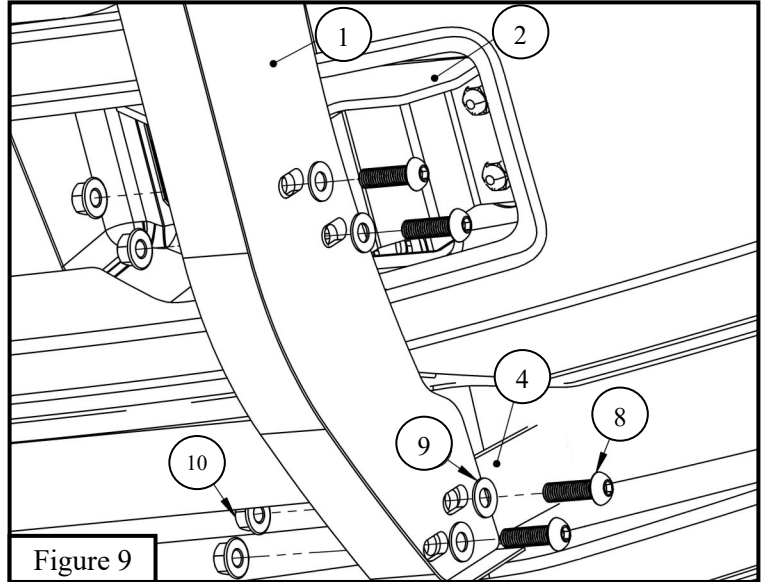

Figure 9
8. Locate the Sportsman X Grille Guard and with assistance align it with the previous installed brackets. Loosely secure using (8) M12 cup washers, (8) M12 serrated flange nuts and (8) M12 hex socket button head screw. **See Figure 9.**